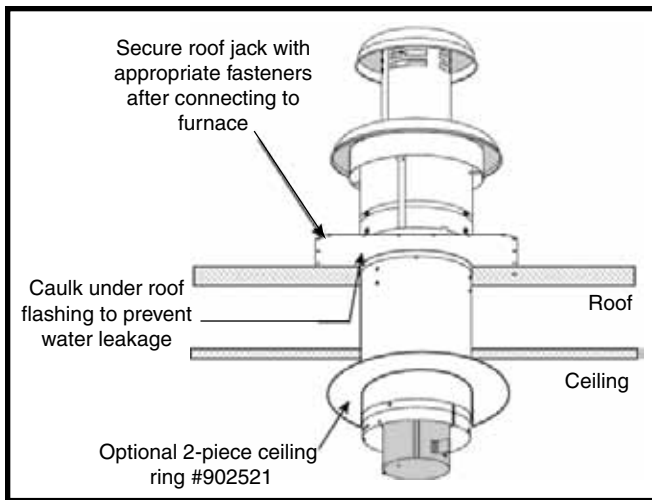
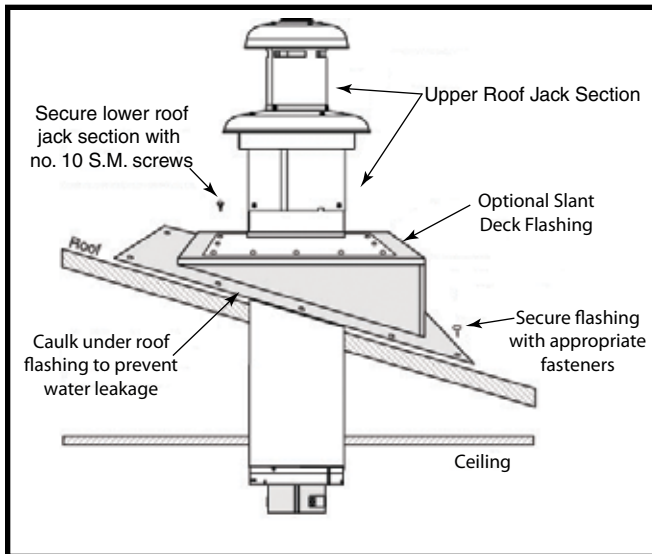

Figure 20. Flat Roof
Figure 21. Pitched Roof
1. Apply caulking compound on underside of roof flashing to form a continuous strip at least 3/8” wide around the underside of the perimeter of the flashing. See Figure 20 or Figure 21 (page 13).